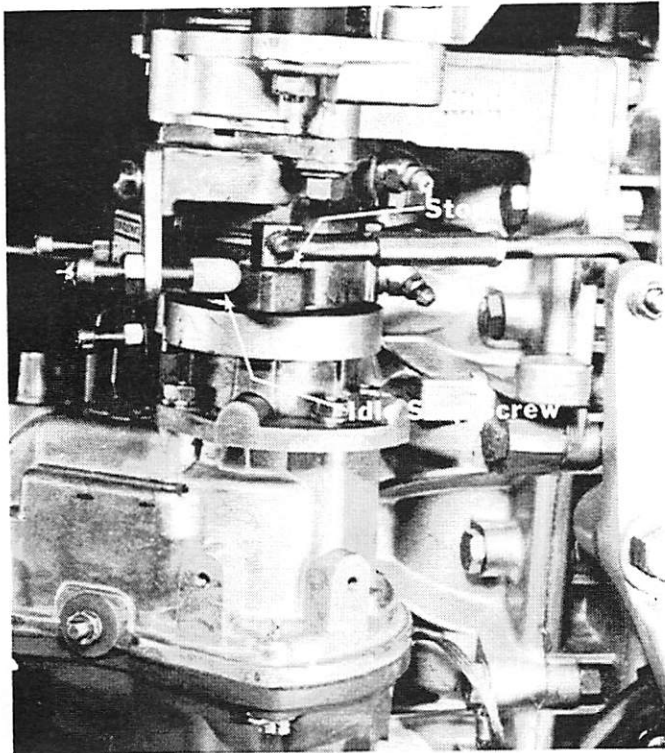

Figure 10. Idle Stop Screw
12. Position vertical lever so that magneto is held lightly against idle stop screw. (Figure 10)
15. Turn handle grip to full throttle position and back to idle. Check that magneto is held lightly against idle stop screw. (Figure 10)